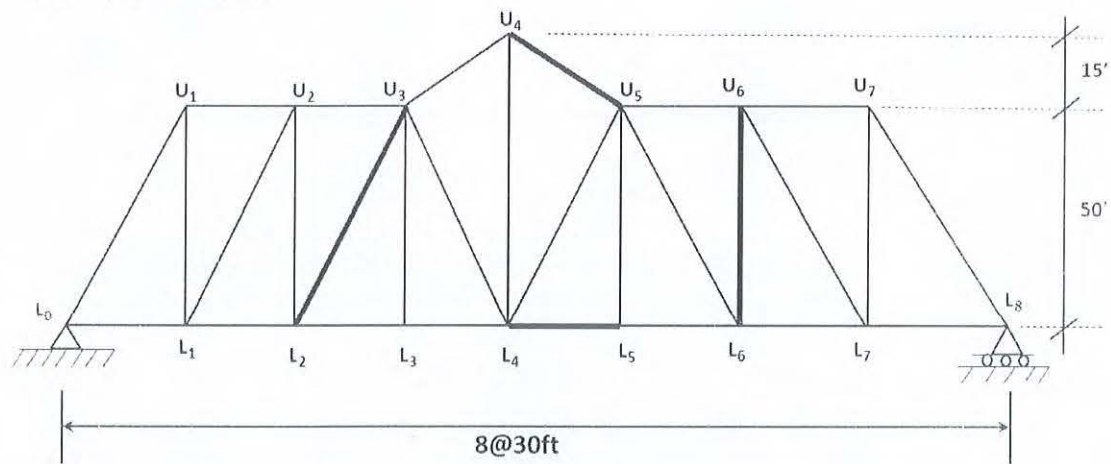

Figure 4
4. Analyze the truss shown in **Figure 4** and draw influence line diagram of member U_4U_5 , U_3L_2 , L_4L_5 and U_6L_6 . [12]